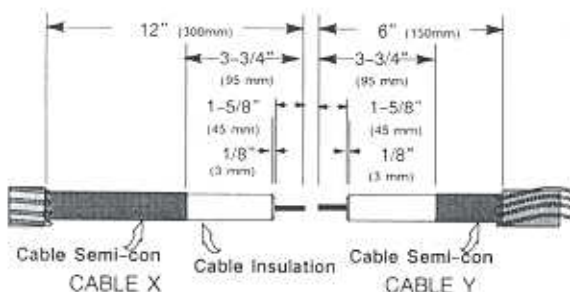

Figure 1
A. Prepare Cables According to Standard Procedures Figure 1.
3. Continue cable preparation according to Figure 1.